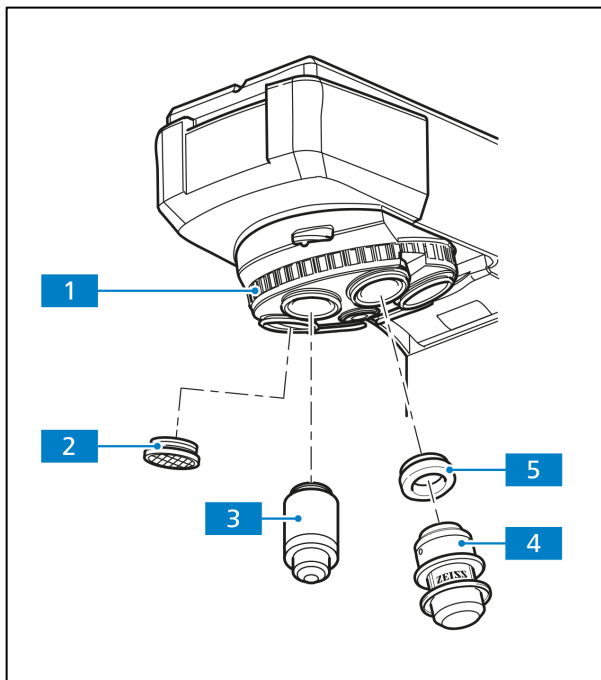

Fig. 3-7 Screwing in objectives
- Remove the dust protection caps (Fig. 3-7/2) from the appropriate nosepiece openings.
- Take the objective (Fig. 3-7/3) out of its box and mount it on the nosepiece (Fig. 3-7/1), starting with the smallest magnification factor (set up clockwise).
- Instead of an objective, you may mount an object marker (Fig. 3-7/4) on any position of the nosepiece with the aid of a W0.8/M27 adapter (Fig. 3-7/5). Don't forget to recap the object marker when not in use to prevent it from drying out.